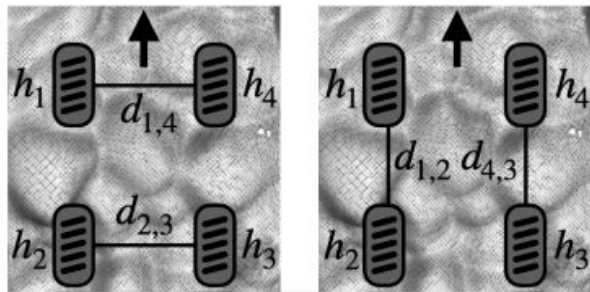

Fig. 3: Roll and Pitch Model.
where $d_{i,j}$ is the distance between the wheels i, j , and the subscript sets for roll and pitch are $\mathcal{I}_{\text{roll}} = \{(1, 4), (2, 3)\}$ (Fig. 3 left) and $\mathcal{I}_{\text{pitch}} = \{(1, 2), (4, 3)\}$ (Fig. 3 right), respectively. Notice that Eqn. (1) only considers the terrain patch, not vehicle state and action, and the physics model is deterministic.